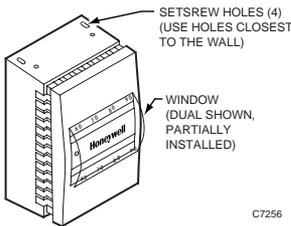

Fig. 7. Assembly of Cover with Window Frame and Insert.
3. Peel release liner from window back (see Fig. 7).